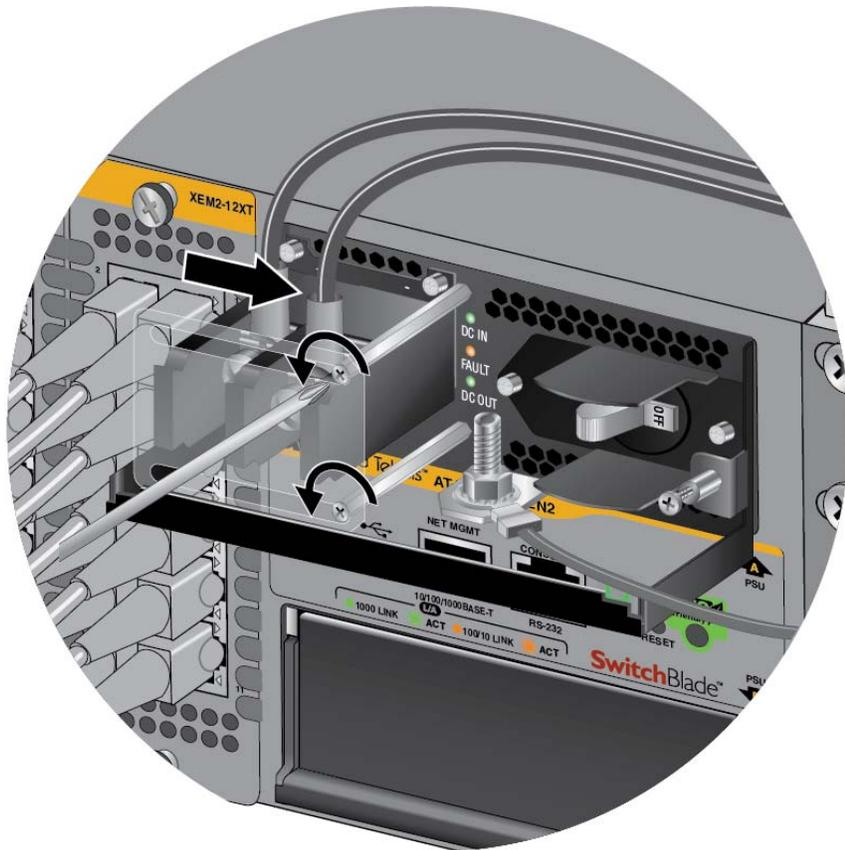

Figure 113. Opening the Plastic Window over the Terminal Block
4. Use a #1 screwdriver to loosen the two screws that secure the plastic cover over the terminal block and slide the cover to the right. You may need to slightly lift the locking handle to access the bottom screw. Refer to Figure 113